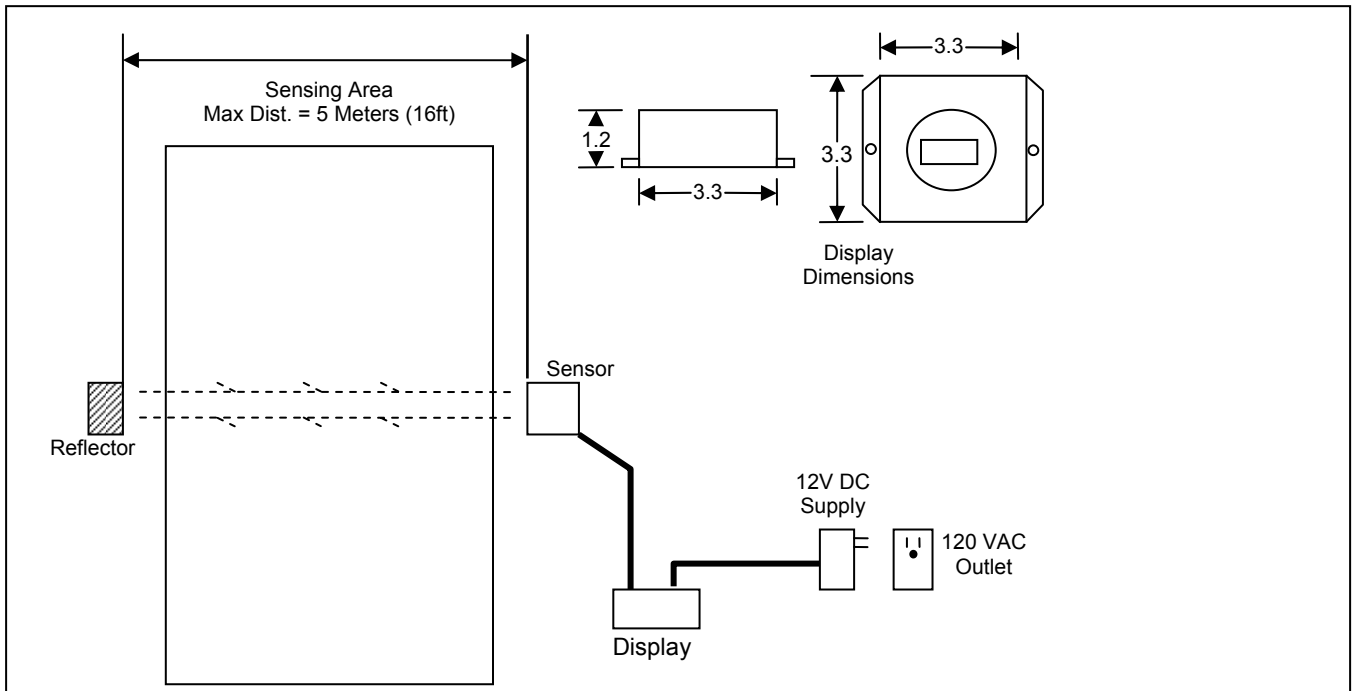
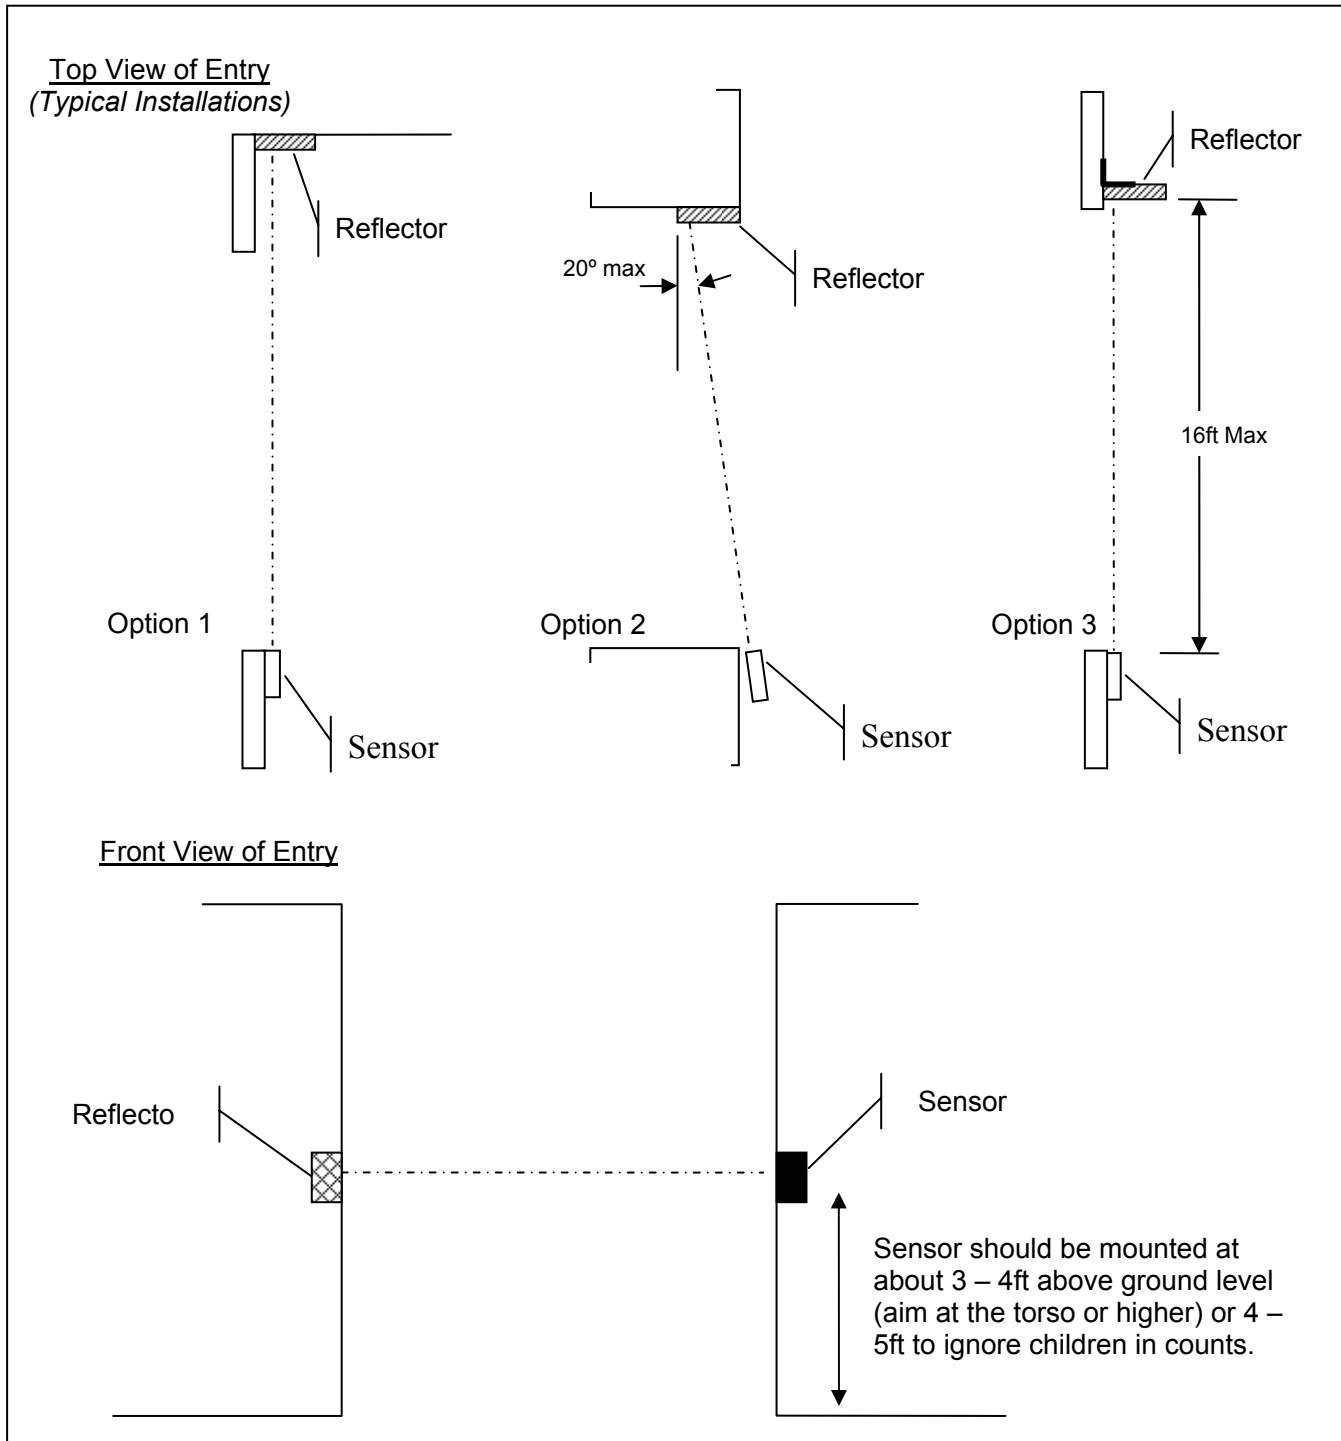

Figure 3
Figure 4
- 2.1. Sensor: The sensor should be installed securely using the mounting brackets supplied with the sensor at a level that people will break the beam (mounting screws not included). The sensor is most effective when mounted about 3-4ft above the ground (aim at the torso section), or 4-5ft to ignore children in counts. Plan to mount the reflector directly across from the sensor at a distance no greater than 5 meters (16ft), but **DO NOT PERMANENTLY MOUNT THE REFLECTOR UNTIL STEP 4**. Mounting suggestions are located in figure 4. (Refer to Figures 3 and 4)